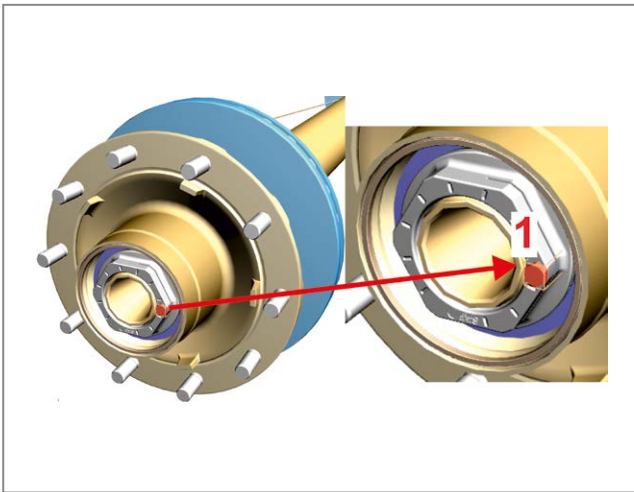

Fig. 6 - Loosen the locking screw
2. Loosen the locking screw ► *Fig. 6* -item 1.